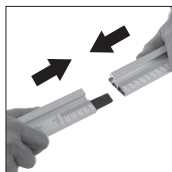

Fig. 10
Note: The fence rail is supplied in two pieces (L) which slot together. The plastic connecting tongue (M) should be inserted into the rectangular voids in the two extrusions to bridge both parts of the Fence Rail. (Fig. 10)